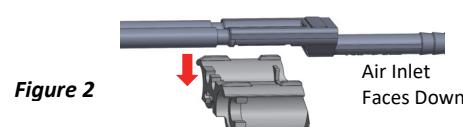

Figure 2
- Orient air tube (Figure 2) so that air inlet faces towards holder